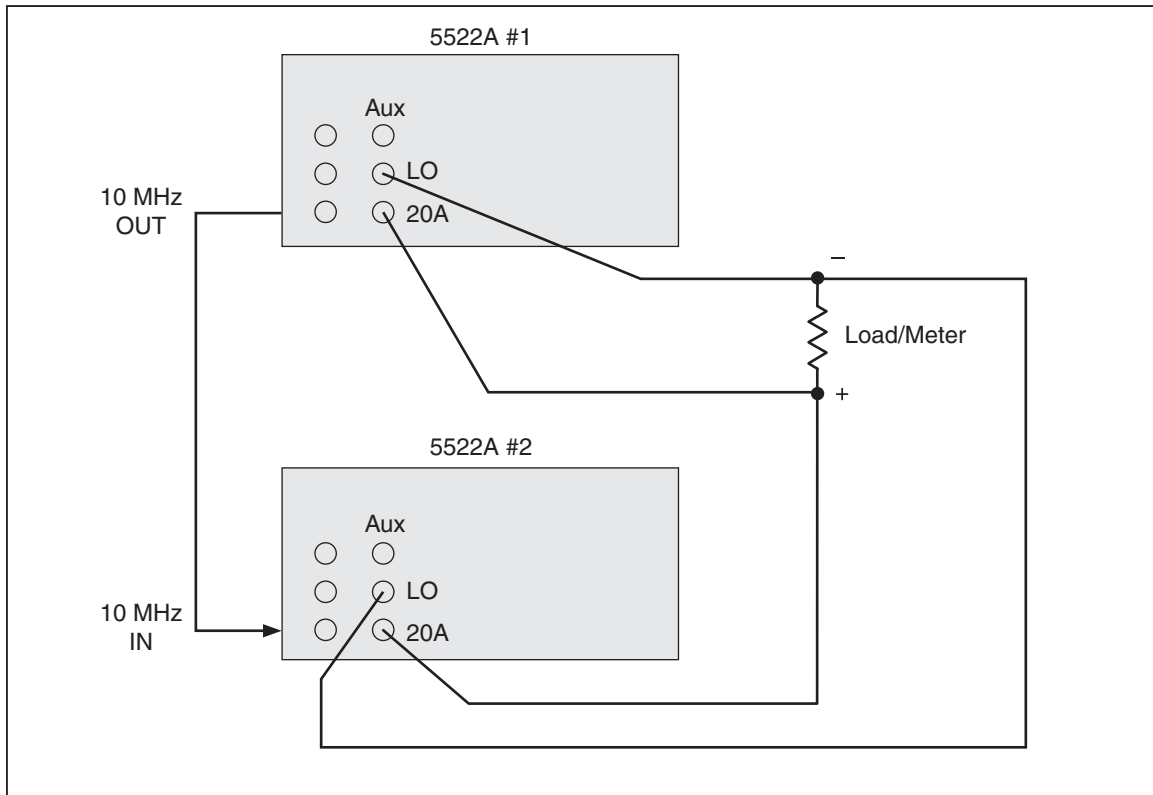

Figure 4-16. Two Calibrators Sourcing Current in Parallel
1. With both Calibrators in standby mode, make the connections as shown in Figure 4-16.